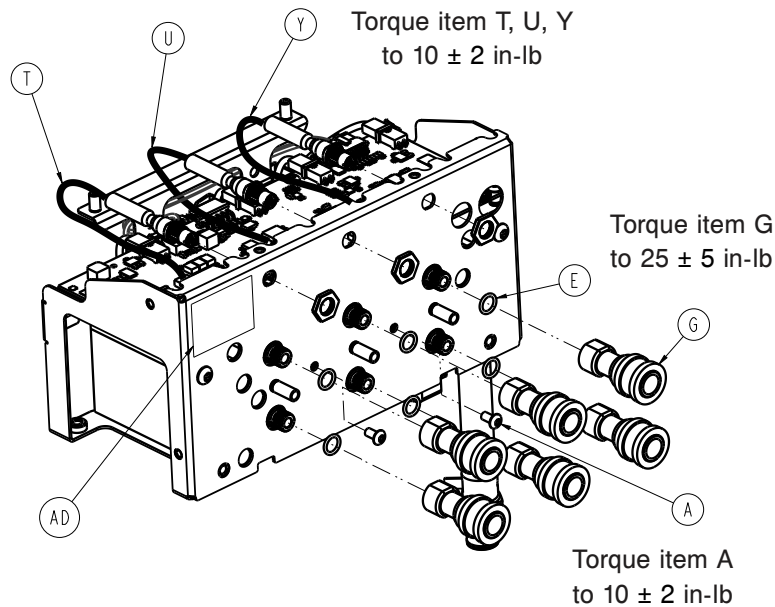

Figure 46 – Hose connectors
16. Using 7/16" socket loosen the two nuts (D) that secure the MCB bracket to the control assembly bracket.
19. Using a crescent wrench, remove and save the six hose connectors (G) and O-rings (E) (Figure 46).